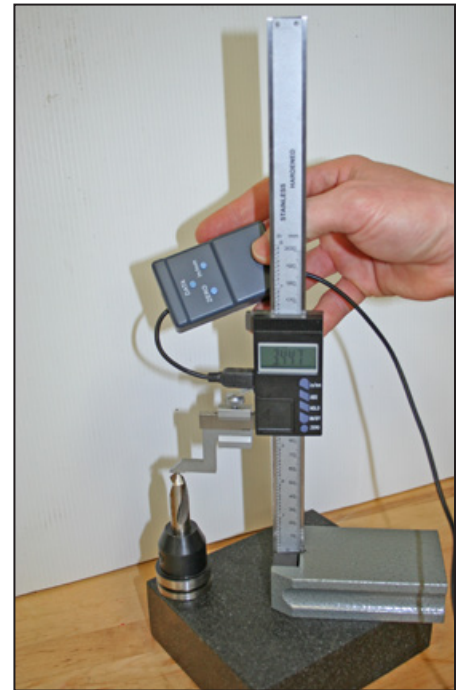

Figure 6.20
The Tormach Tool Assistant Set (PN 31988) includes an 8" digital height gauge and a USB interface cable with touch trigger (see **Figure 6.20**).
NOTE: Granite Surface Plate with Integrated Tool Hole (PN 31713), as shown in **Figure 6.20**, helps accurately measure tool length.
3. To measure tool height, mount the tool in a TTS tool holder and place on a block (see **Figure 6.20**). The tool height measurement is the distance from the block surface to the end of the tool tip.